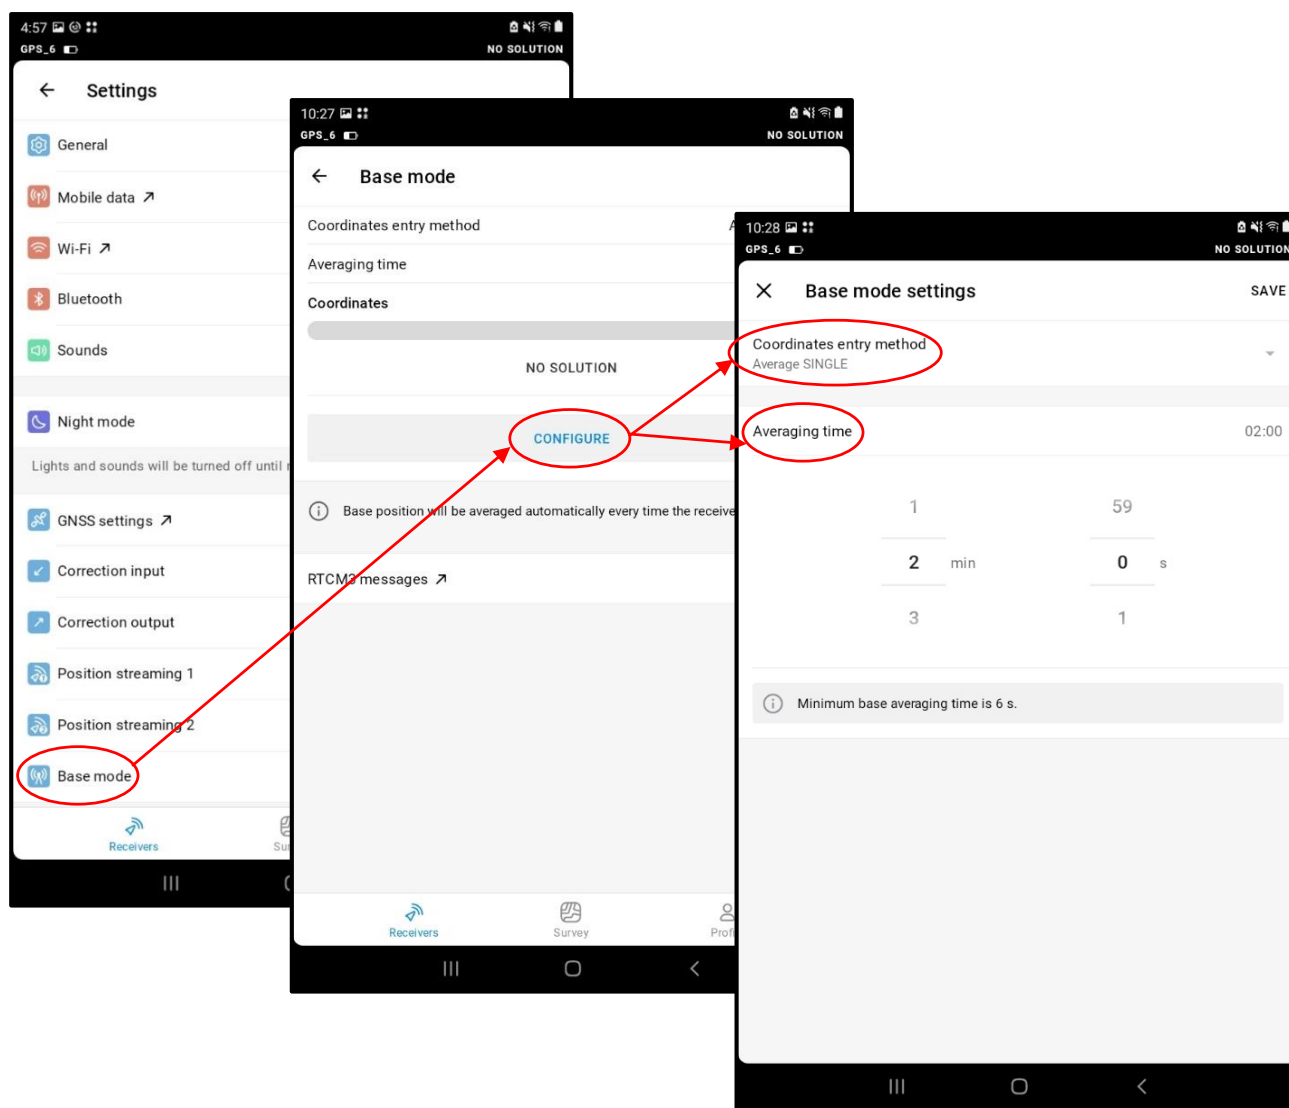

Figure 22. Figure showing the workflow for updating Base Mode Settings in the ReachView App with red circles and arrows showing the workflow.
- b. Check Base Mode Settings (Figure 22)